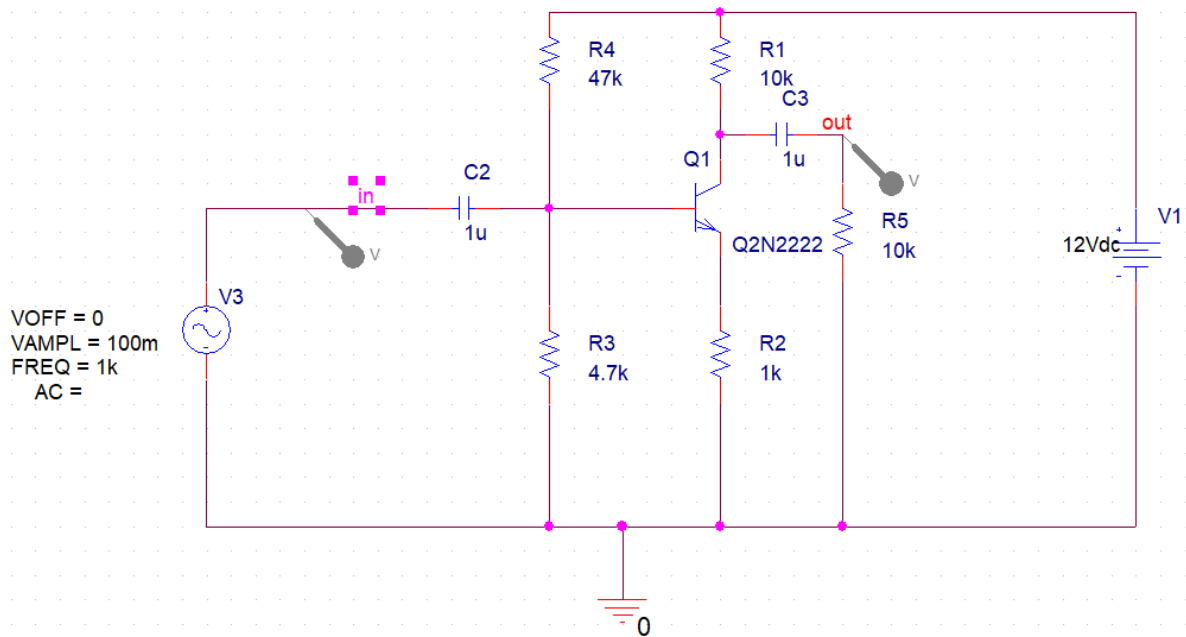

Figure 5 Common Emitter Amplifier
- 2- Open the schematic page and draw the circuit in Figure 5. The transistor can be found in the bipolar library. In the Place Part menu, select the Add Library icon  This will open up the Browse File window. Scroll along or, alternatively, type in bipolar.olb in the File name field. Select bipolar.olb and click on Open.
- 3- Add a VSIN source from the source library and don't confuse it with VAC, adjust its parameters as shown in Figure 5.